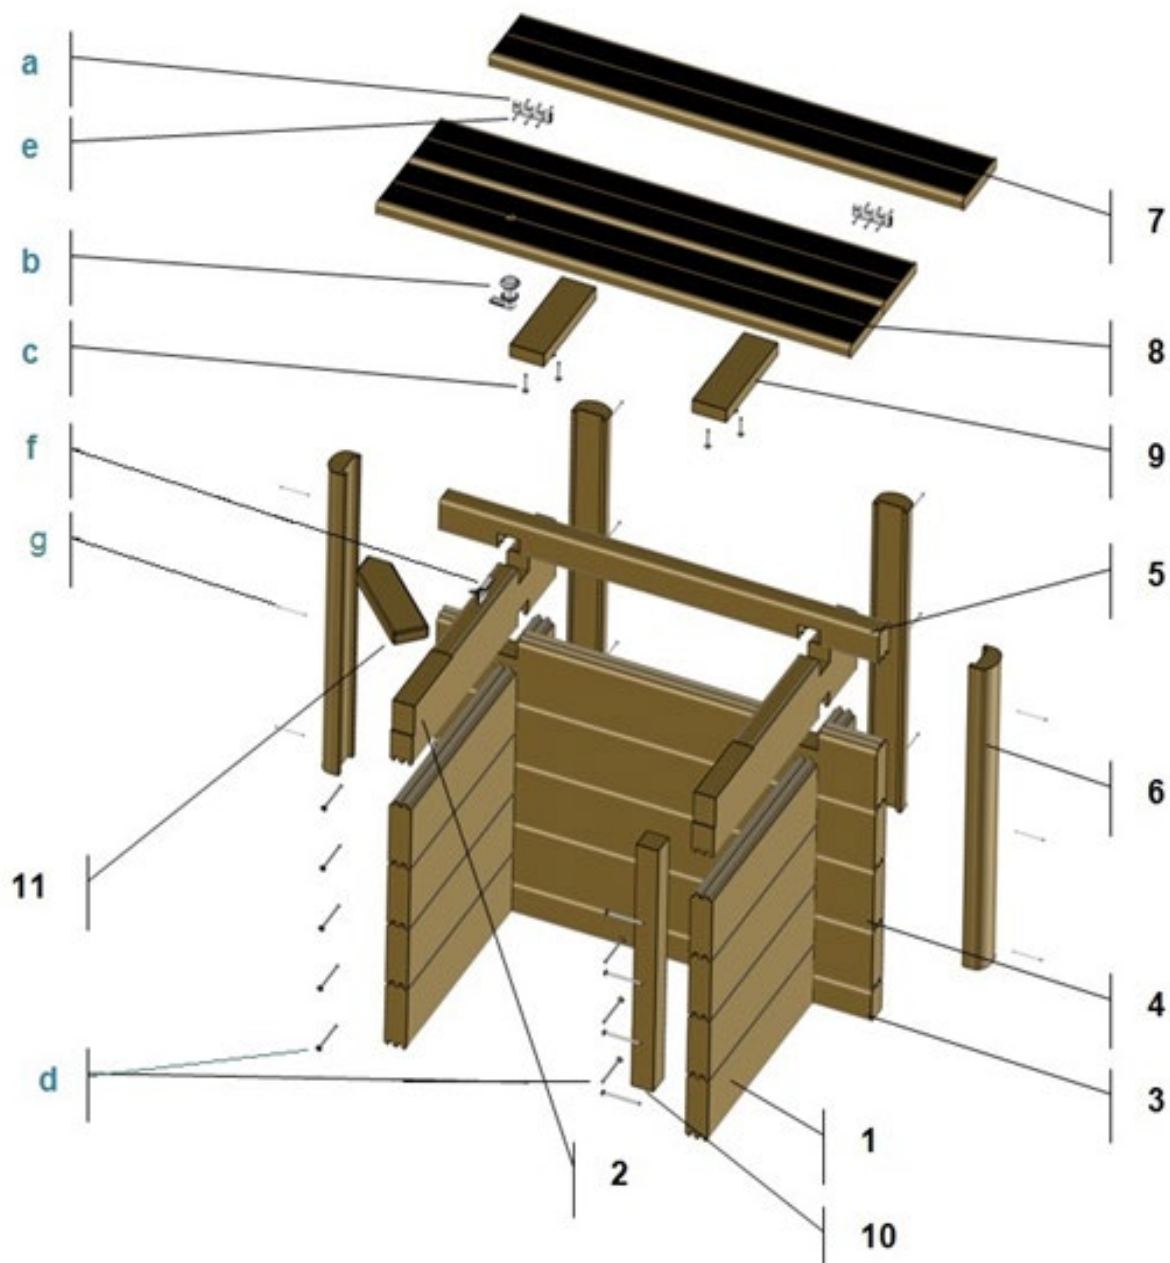
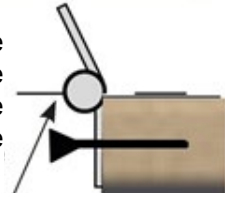

Figure 57 – Cover pit exploded view
Figure 63 – Mounting the hinges
To finish, fasten the 45 × 45 mm cleat (part no.10 in *Figure 57*) in position using 4 countersunk torx screws 5 × 80 threaded over 50 mm (d). This cleat should be flush with the end of the cover pit slats.
The corner part delivered with the wooden pack of your Urban pool is rectangular. After installing the coping on your cover pit, a triangular space will be left empty. To avoid this situation, swap this part for the part with the pointed end enclosed with the cover pit (part no. 11 in Figure 57).
- Fasten the cleat (part no.10 in Figure 57) to the pool wooden slats using three countersunk Torx screws 5 x 80 threaded over 50 mm (d);
Using 3 countersunk screws 4 × 35 per hinge, mount the two hinges on the edge of a duckboarding coping module 97.5 cm long (part no.7 in *Figure 57*) at the positions indicated in *Figure 63*.
Follow the hinge mounting instructions provided in *Figure 63*.
The hatch locking mechanism is comprised of a lock barrel, a lock cam to fitted to the end of the lock barrel, and a strike plate to be fitted to the cover pit slat machined to hold the lock (part no. 2 in *Figure 57*).